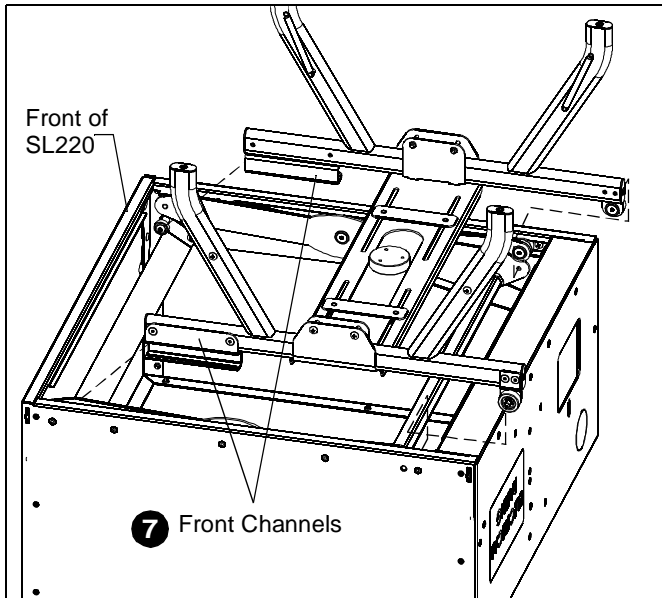

Figure 15
7. Slide front channels of previously removed projector cradle forward onto the SL220 bearings. (See Figure 15)